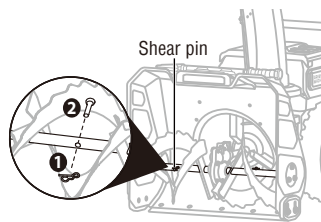

Fig.16
1. Remove the locking pin from the shear pin on each side and then pull out the broken shear pin. (Fig.16)
2. Carefully align the auger to the auger shaft and insert the new shear pin (GMA-SP) into the slot, then insert the locking pin to secure the auger. (Fig.16)